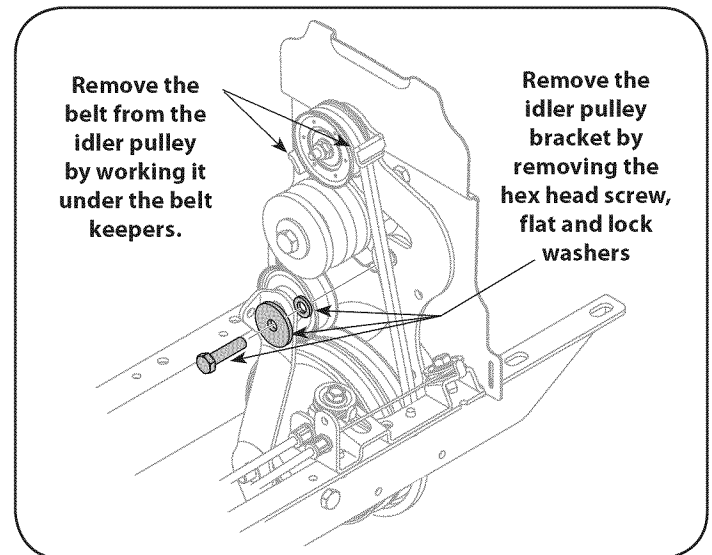

Figure 30
5. Remove the idler pulley bracket by removing the 5/16-24 hex head screw, flat washer and lock washer. See Figure 30.